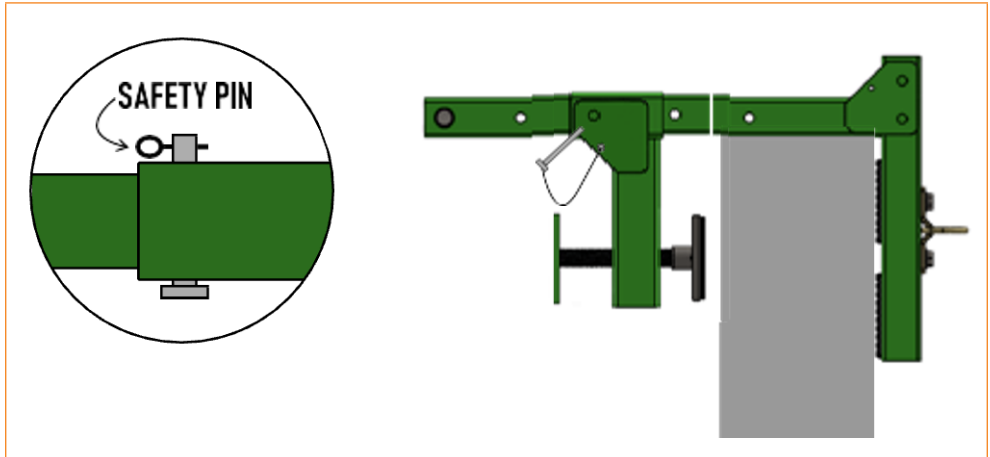

Figure 7 – The Safety Pin Into The Locking Pin To Secure Its Position
4. Thereafter, insert the safety pin into the locking pin to secure its position as shown on figure 7.